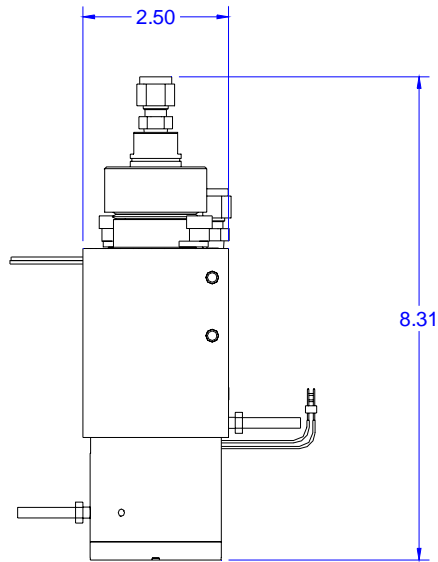

Figure 2 - PH-05 Overall Dimensions
- Physical dimensions are shown in Figure 2.